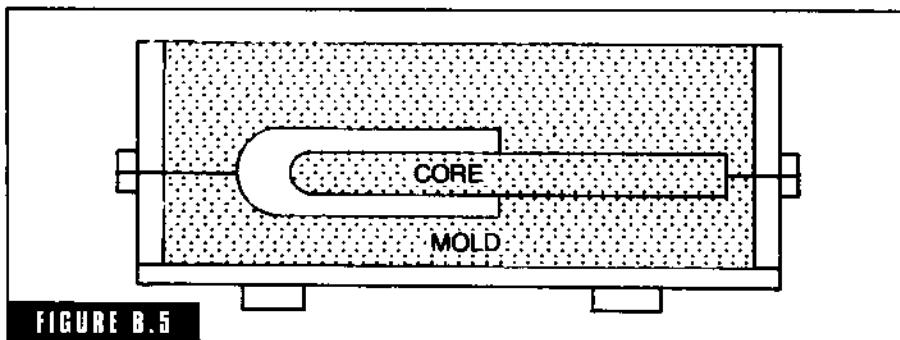

FIGURE B.5
**balance core** A core with only one point of suspension or print (Fig. B-5). The core print is made long enough to have sufficient purchase in the mold to prevent it from moving during casting.